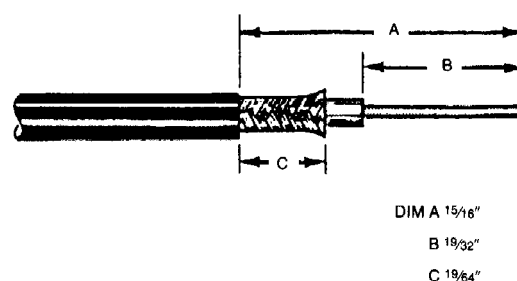

Figure 13.
2. Prepare the cable to strip dimensions per Figure 13 which is also marked on handtool.